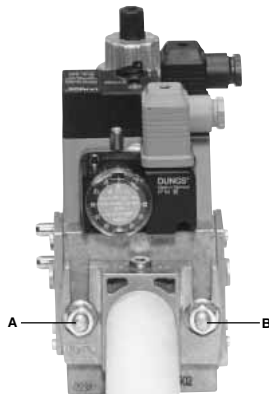
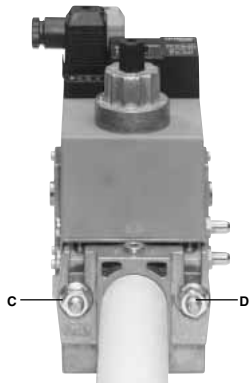

Fig. 6
Fig. 7
3. tighten screws A, B, C and D (Fig. 6 - Fig. 7), according to the mounting positions (Fig. 9);